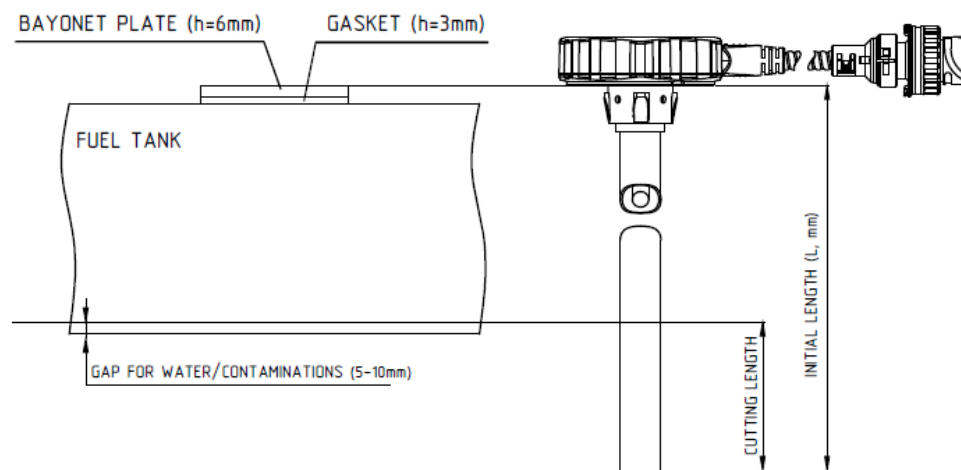
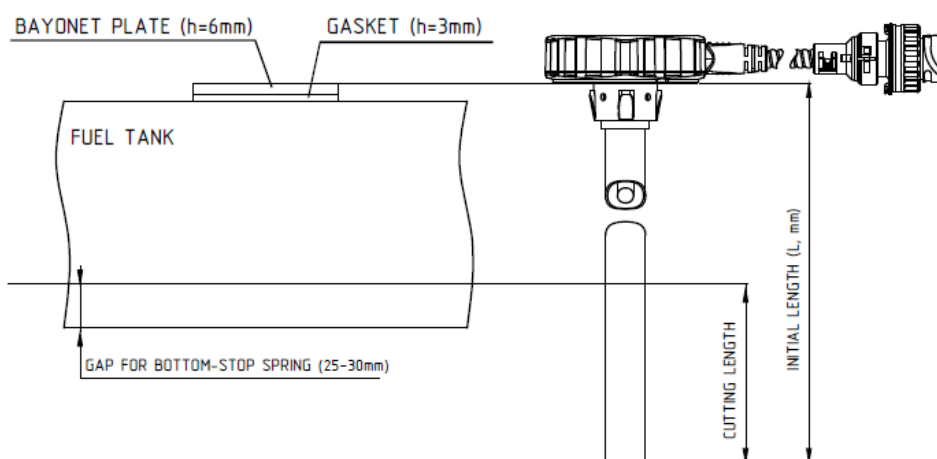

fig. 4.4. Determining sensor length
fig. 4.5. Determining sensor length
2. Determine the sensor cutting length  $L1$  as the sensor length  $L$  (fig. 4.4 and fig. 4.5) and subtract the distance from the sensor edge to the tank bottom (30 mm if the bottom stop is installed). It is not recommended to install the bottom stop on stationary containers or if the sensor length is up to 700 mm.